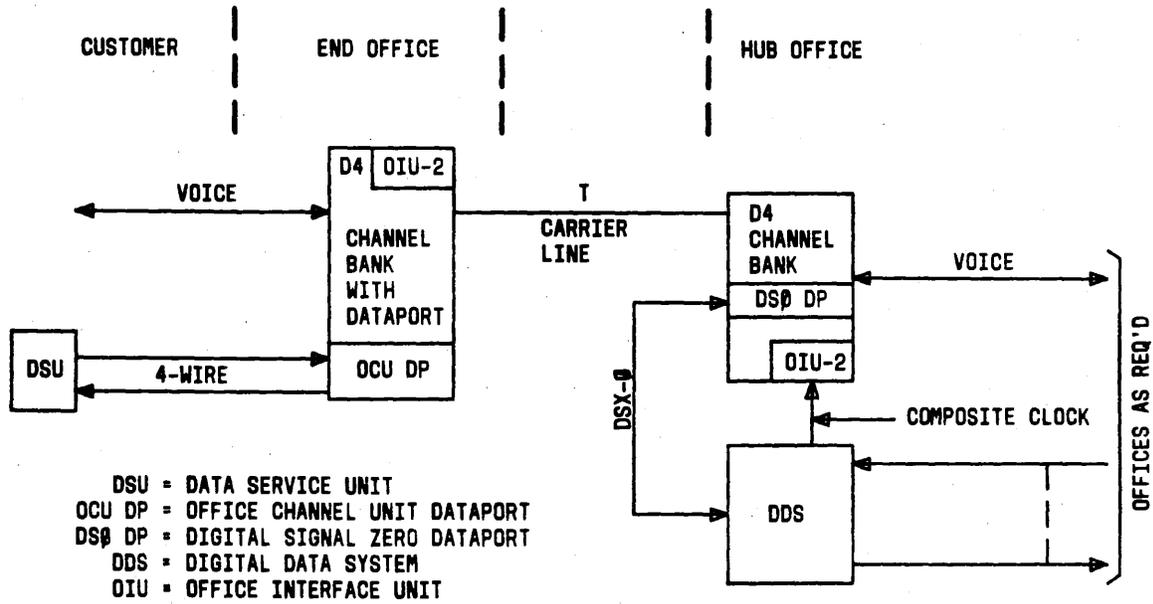

Fig. 6—Typical Dataport Application
2.05 The DDS customer is connected to the OCU DP channel unit by a 4-wire circuit at substrate speeds with bipolar signal format. See Fig. 6. The incoming serial substrate data streams are organized into 6-bit information bytes. The input to the D4 common circuits requires an 8-bit byte format. The OCU DP adds a 0 bit to the front of the byte and a 1 bit to the end to establish the 8-bit byte format.
slot. This unit immediately transmits a "DDS-out-of-sync" code continuously during a carrier failure on the DS0-A or DS0-B signal if the T line loses signal. An option in the receive side of this channel unit is provided to activate the error correction scheme. An error correction code has been incorporated and if the T line error rate degrades temporarily, this code will maintain the error performance of the data signal. The scheme will keep the error rate signal at 10^{-8} even if the T line error rate degrades as much as 10^{-3} . Typical application of a DS0 DP in the hub office is shown in Fig. 6.